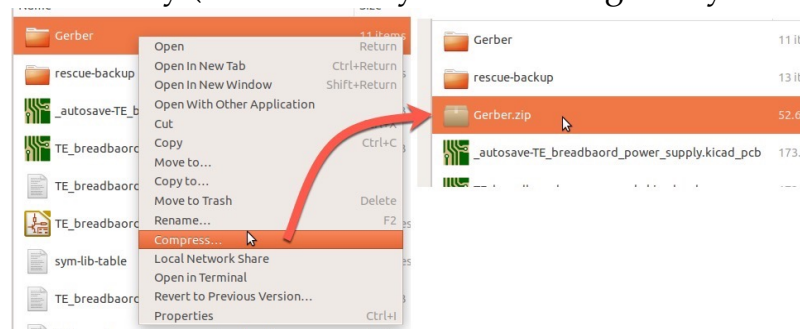

Figure 31.4: Create a Zip archive of the Gerber directory.
5. Next, you must create a Zip archive that contains the Gerber directory with all the files in it. In Ubuntu, this can be done with a right-click, and by choosing the 'Compress...' option (Figure 31.4). The Gerber.zip files should be in your project directory (or wherever your archiving utility stored it).